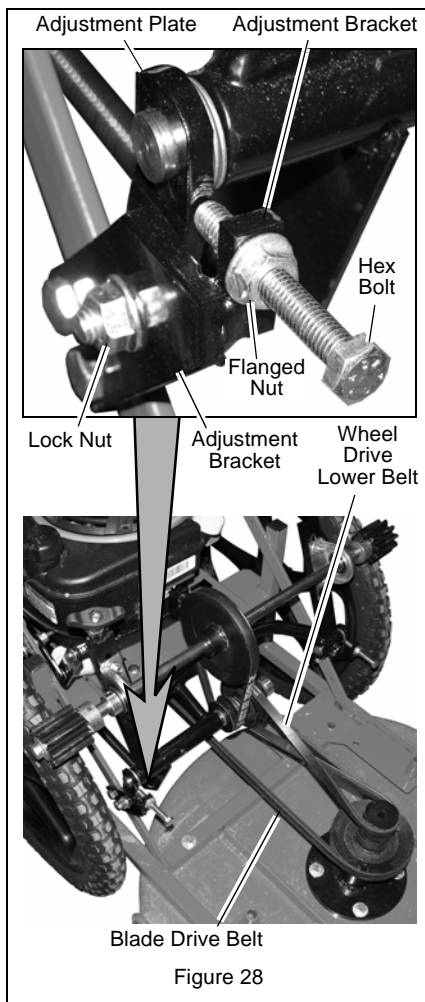

Figure 28
On each side of the mower, the lower end of the wheel drive frame pivots from an adjustment plate (See Figure 28). The upper right side of the frame is connected by a link to the end of the engage plate. The opposite end of the engage plate pivots from the bell crank post. See Figure 26.
On each side of the mower, the wheel drive frame pivots from adjustment plates connected to adjustment brackets. A hex bolt mounted through each bracket contacts the plate to set the frame position. See Figure 28.
4. Tension belt to get a maximum of 80 lbs of tension. This correlates to approximately 0.250" (6.35mm) flex in belt. Use the pressure of one finger at the center of the belt span to check for proper flex. See Figures 28 and 29.